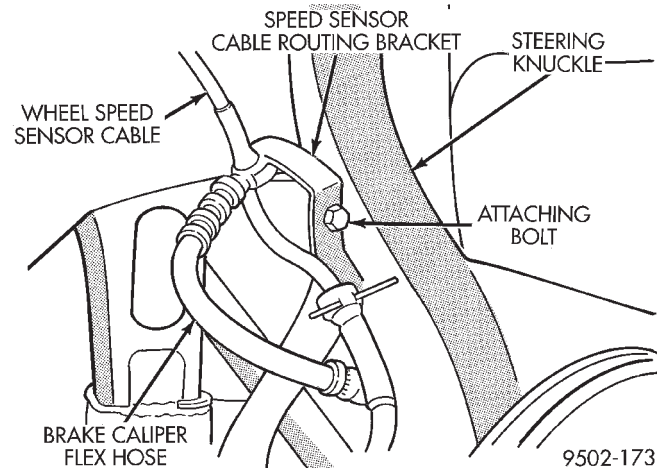

Fig. 38 Speed Sensor Cable Routing Bracket
(12) If equipped with antilock brakes remove the speed sensor cable routing bracket (Fig. 38) from the steering knuckle.
(1) Slide drive shaft back into front hub/bearing assembly. Then install steering knuckle onto the ball joint stud in lower control arm.
(2) Install the steering knuckle to lower ball joint stud castle nut.
(3) Install upper ball joint stud in steering knuckle. Install the steering knuckle to upper ball joint stud castle nut. Using a crow foot and torque wrench, tighten the upper and lower ball joint castle nuts to the following torque specifications.
(4) If equipped with antilock brakes install the speed sensor cable routing bracket on the steering knuckle (Fig. 38) and securely tighten attaching bolt.